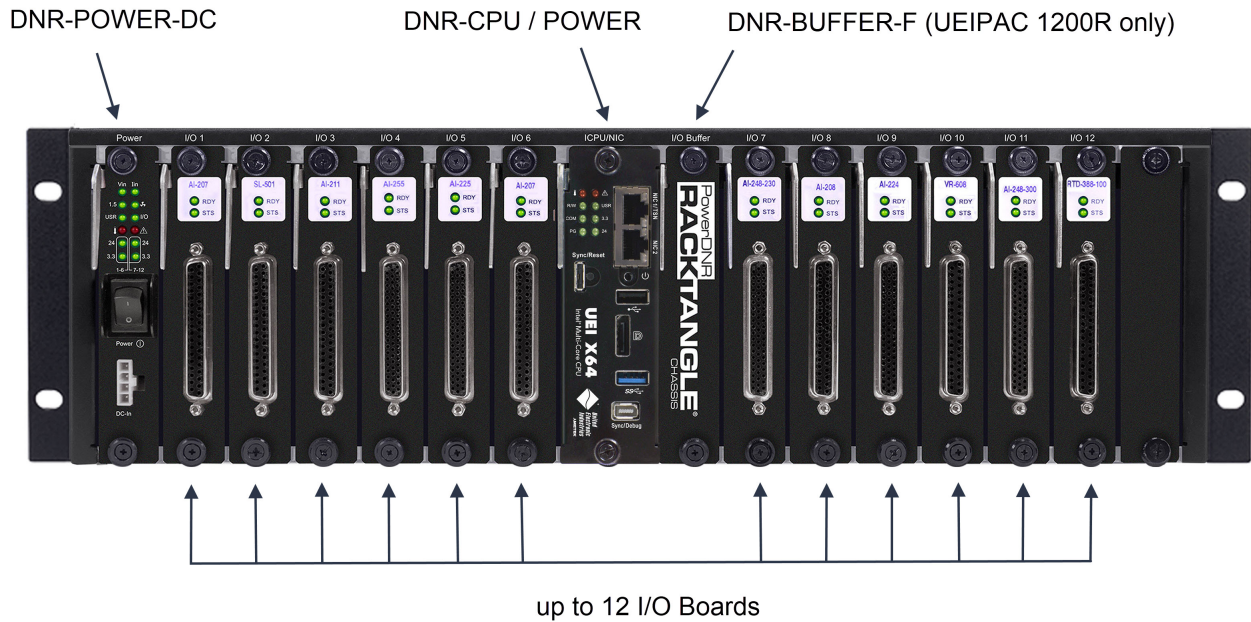
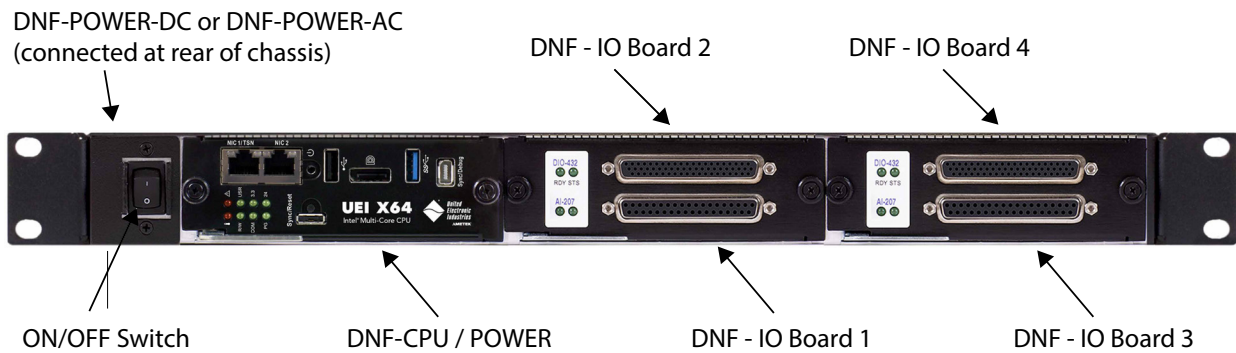

Figure 3-5. Typical UEIPAC 1200R Board Placement
Figure 3-6. Typical UEIPAC 400R Board Placement
Typical UEIPAC RACK-based modules are shown in Figure 3-5 and Figure 3-6 and described in Table 3-3.
- Refer to Figure 3-5 on page 20 for location of buffer board in the RACKtangle chassis.